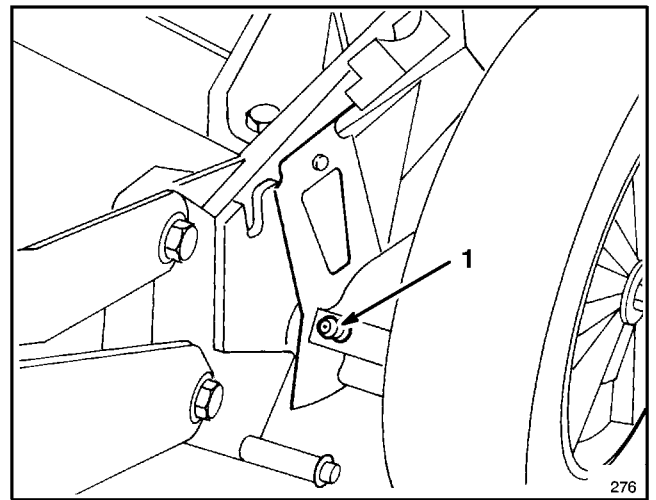

Figure 28
2. Move rear wheel height-of-cut levers to "C" setting. Wipe grease fittings with clean rag (Fig. 28). Install grease gun onto fitting and gently apply 2 or 3 pumps of #2 Multi-Purpose Lithium Base Grease. Excess pressure may damage seals.